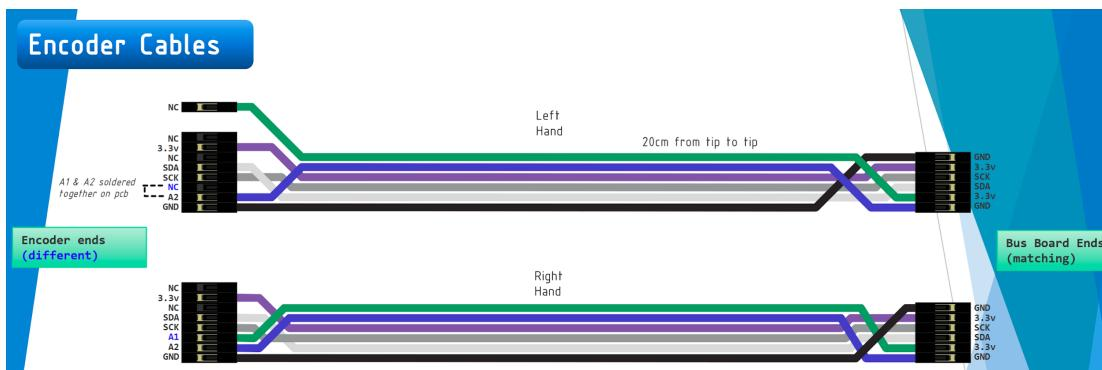
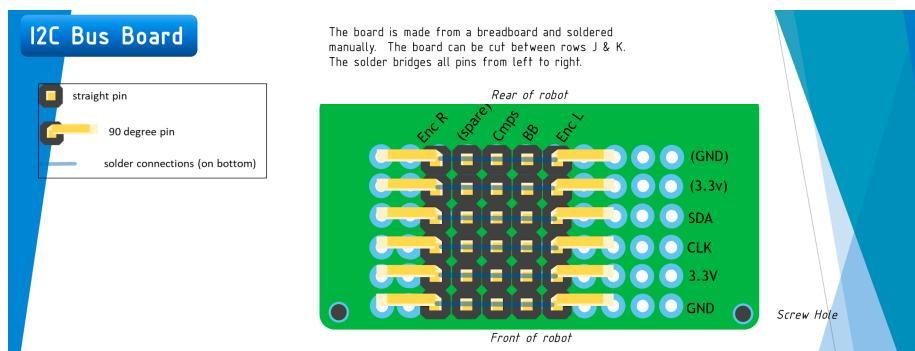

Figure 1 – Encoder Cables
Figure 2 – I2C Bus Board
1. Connect the encoder cables(left and right) shown in Figure 1, to the I2C bus board, shown in Figure 2. Make sure that you follow the wiring diagram below.
2. Understand your i2C bus board. Shown in Figure 2.